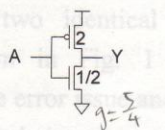

Fig. 9
14. A ring oscillator composed of  $N$ -stages identical inverter is as shown in Fig. 9. Assume the effective resistance of an unit inverter (P:2, N:1) is  $200\Omega$  and parasitic capacitance is  $5\text{fF}$ . (5%)